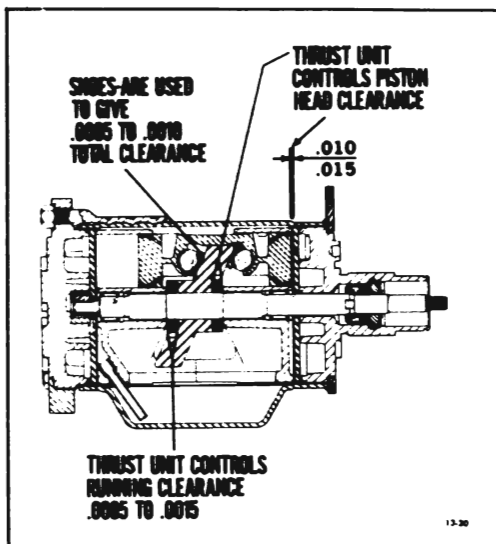

Figure 13-31 Compressor Needle Thrust Bearings and Races
5. Needle Thrust Bearing and Races - Two needle thrust bearings, each "sandwiched" between two races are located on either side of the swash plate hub. The front needle thrust bearing and races provide 0.010" to 0.015" clearance between the top of the pistons and the rear side of the front suction valve reed disc (see Figure 13-31). The rear needle thrust bearings and races provide 0.0005" to 0.0015" clearance between the hub of the swash plate and the rear hub